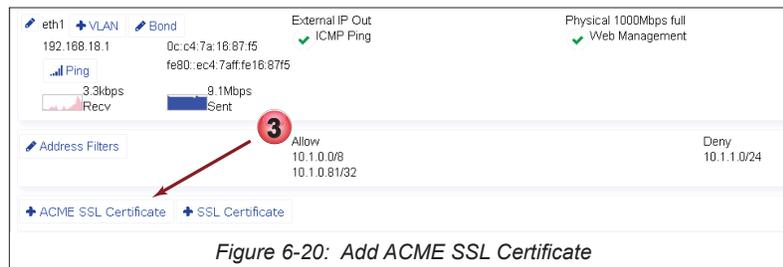

Figure 6-20: Add ACME SSL Certificate
- Click the **+ ACME SSL Certificate** **+ ACME SSL Certificate** button, Figure 6-20.